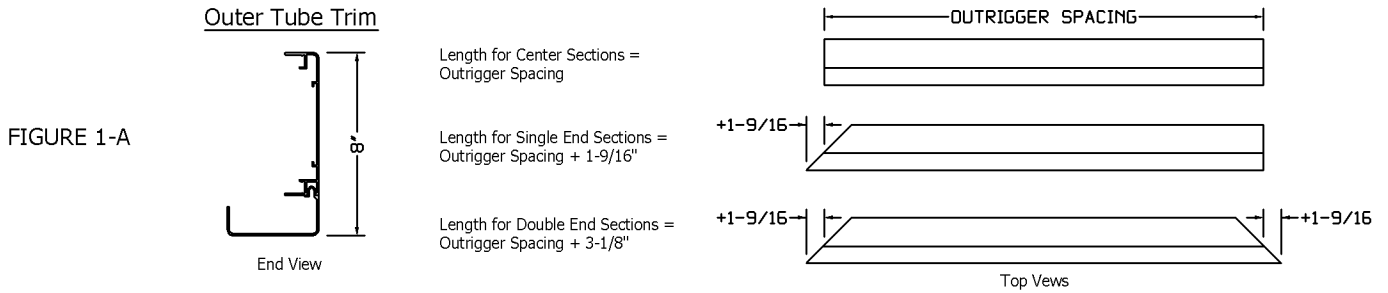

FIGURE 1-A
1. Locate Outer Trim for each of the Outrigger spans based on Figure 1-A